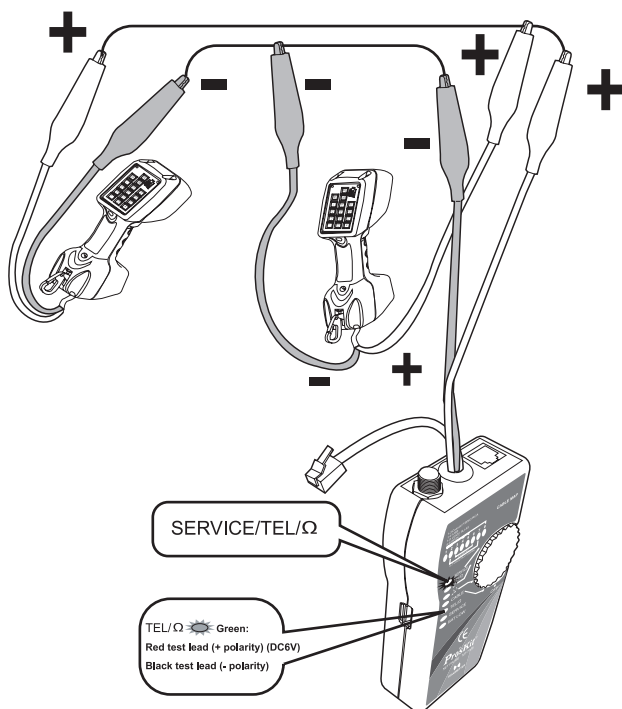

Figure 10 Powering a Telephone Test Set
The Toner can supply 6V into a 600 Ω circuit to power telephone test sets (Hand set/Butt set) when Central Office battery power is not present. (Fig 10)
1. Connect the Toner to the voice circuit as shown in Figure 10.